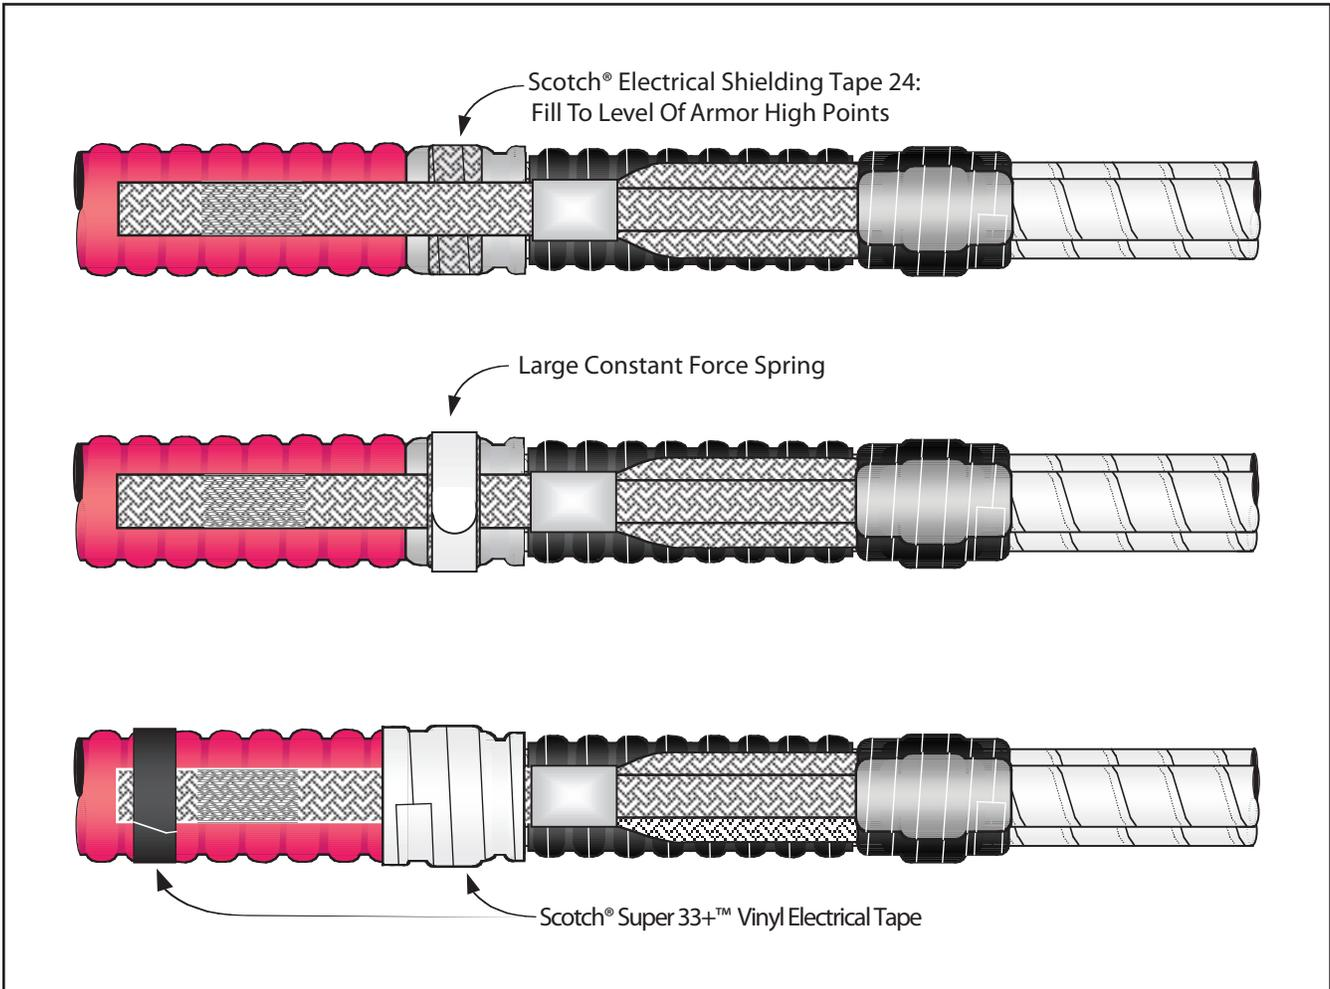

Figure 4
- 2.5 Fill one armor valley section with tightly-wrapped layers of Scotch® Electrical Shielding Tape 24 (*Figure 4*).
- 2.6 Secure ground braid assembly to cable armor using large constant force spring (*Figure 4*). Once spring has been applied, cinch (twist with hand) to tighten.
- 2.7 Apply one half-lapped layer of Scotch® Super 33+™ Vinyl Electrical Tape over large constant force spring and cable armor (*Figure 4*).
**Note:** Apply Scotch® Super 33+™ Vinyl Electrical Tape to hold down ground strap (*Figure 4*).